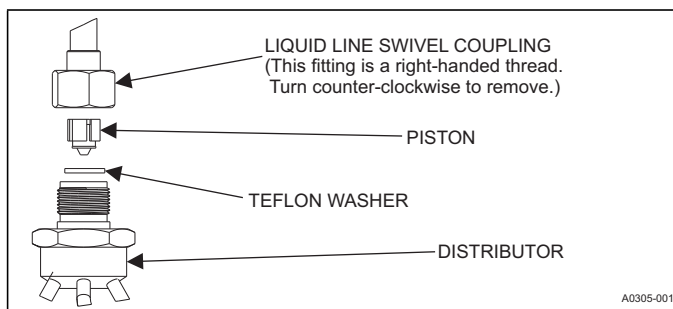

FIGURE 4: Piston Installation
8. Install required size piston into the distributor. Refer to supplied Tabular Data Sheet for specific piston size and indoor coil match up. See Figure 4 below.
9. Verify that the Teflon washer is still in place in the distributor opening. See Figure 4.